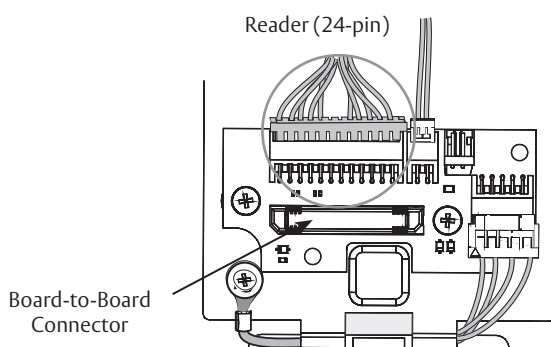

Fig. 22
- Secure 24-pin card reader connector. (Figure 22)